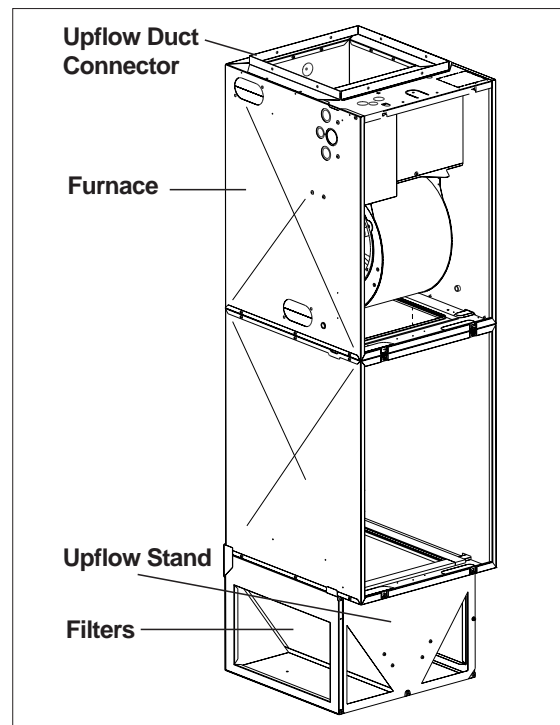

Figure 15. Over-the-Floor Return Air System with Upflow Stand
2. With optional upflow stand: (see Figure 15) -stand must use two filters; one is supplied with the stand and the other **MUST** be removed from the furnace and placed in the stand - see upflow stand instructions for additional details.
2. Use optional upflow stand with filters or construct a suitably braced mounting platform in closet (see Figure 15 or 16).
6. Use optional upflow duct connector or field supplied connector to attach furnace to overhead supply duct. (see Figure 15)
6. Use optional upflow duct connector or field supplied connector to attach furnace to overhead supply duct (see Figure 15).